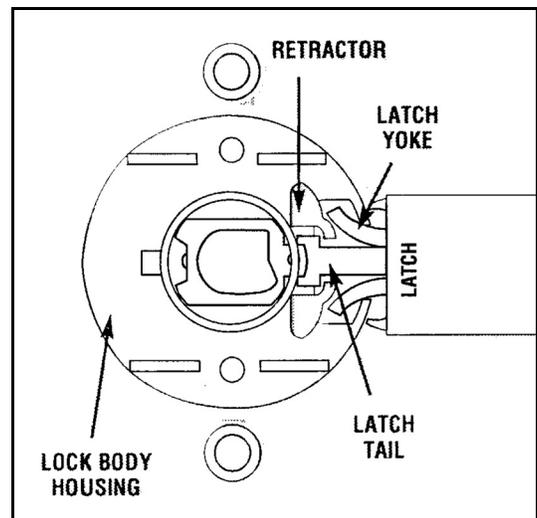

FIG. 10: VIEW FROM SECONDARY SIDE OF DOOR
2. Insert primary side lock body into door and be sure to properly engage the lock body with the latch as shown in Fig. 10.
- Lock is not properly engaged with latch or misaligned. Lock is not centered on door (See Fig. 10).